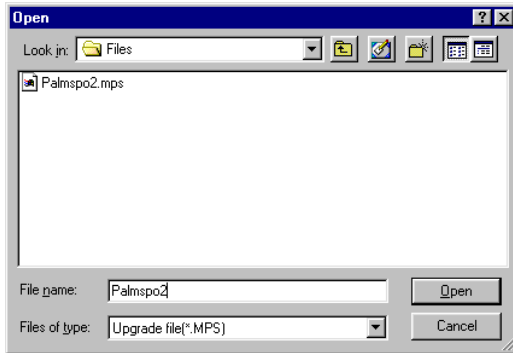

Figure 7-11 Open Upgrade File
3. Select the serial port and click “Browse” to display the dialogue box as shown in Figure 7-11.